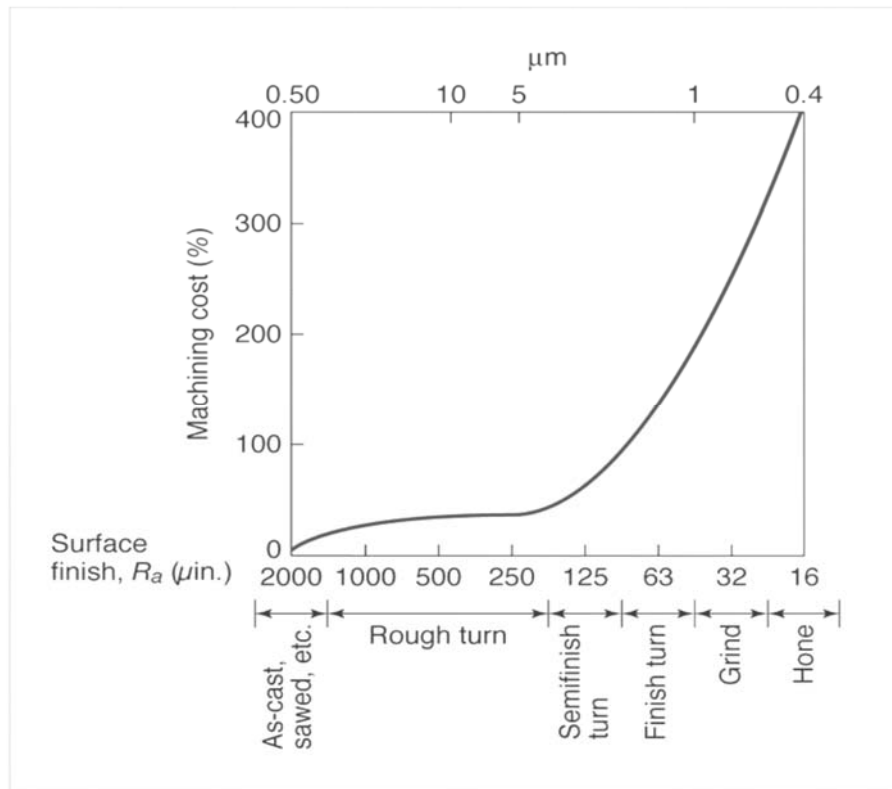

Figure Q2[b]
- (ii) Using the Figure Q2[b], justify the finishing operation based on the cost effective in producing complex part size, shape, surface finish and dimensional accuracy.